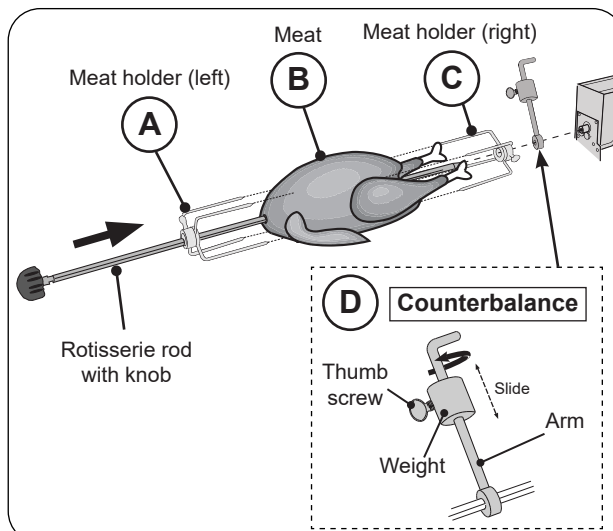

Fig. 34-3 Assemble rotisserie rod for cooking
4. Slide the left meat holder onto the rod and tighten (see Fig. 34-3, A).
5. Then slide meat onto the rod, followed by the right meat holder (see Fig. 34-3, B and C).
8. The counterbalance may then be attached to even weight distribution. Slide the counterbalance onto the rod next to the right meat holder (see Fig. 34-3, D). Loosen the arm and point it upward opposite the heavy side of the meat. Tighten the arm.
9. Slide the counterbalance weight up or down the arm until the rod rotates most evenly then tighten thumb screw (see Fig. 34-3, D).